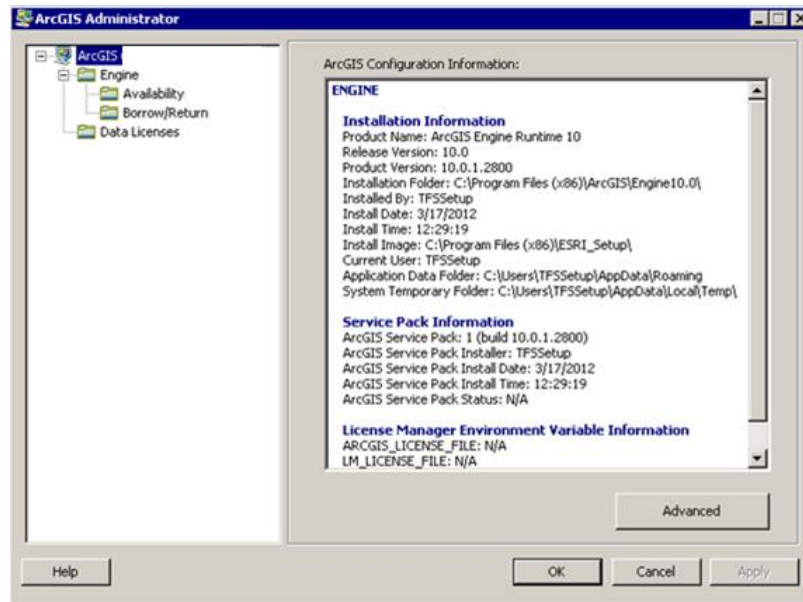

Figure 2-18 ArcGIS Administrator – Configuration Information
2. In the *ArcGIS Administrator* window, verify the installation information and software versions (Figure 2-18). Verify that the service pack build is 10.0.1.2800.